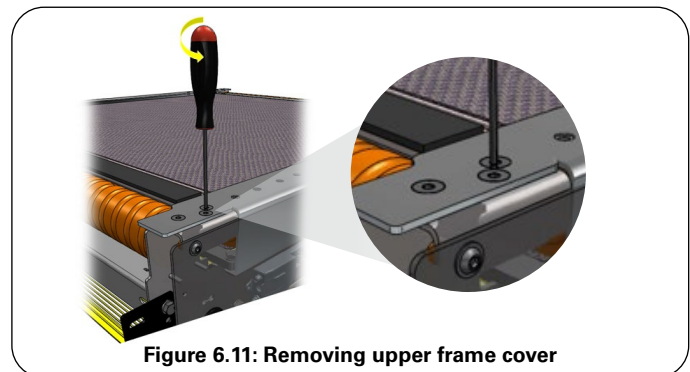

Figure 6.11: Removing upper frame cover
- b. Remove the upper frame rails by removing four allen head screws on each rail (see figure 6.11) to gain access to the Divert Belt mechanism.